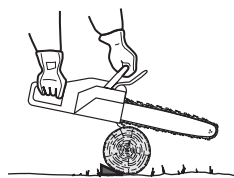

Fig. 45
- > If the wood diameter is large enough for you to insert a soft bucking wedge without touching the chain, you should use the wedge to hold the cut open to prevent pinching (Fig. 45).